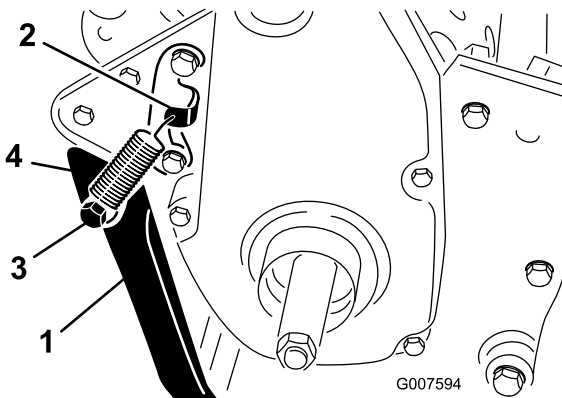

Figure 8
- Hook the spring into the hole in the spring bracket and onto the spring stud while aligning the kickstand with the mounting holes in the rear frame (Figure 8).
- Mount the kickstand to each side of the frame with a bolt, lock washer, spacer, flat washer, and locknut (Figure 8).